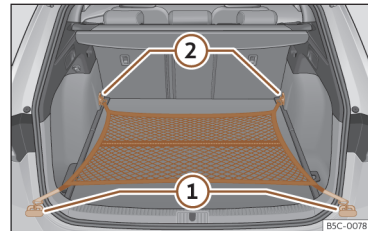

Fig. 126 In the luggage compartment: net bag hooked up at floor level.
- Secure the net hooks to the fastening rings ① and ②»» Fig. 126 »» ⚠. The bag zip should be facing upwards.